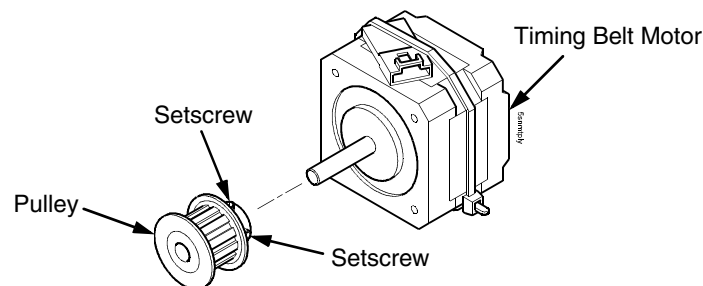

Figure 95. Removing the Timing Belt Motor Pulley
5. Loosen the two setscrews on the motor pulley and remove the pulley. Unplug the motor cable, if necessary. (Figure 95.) Go to step 6.